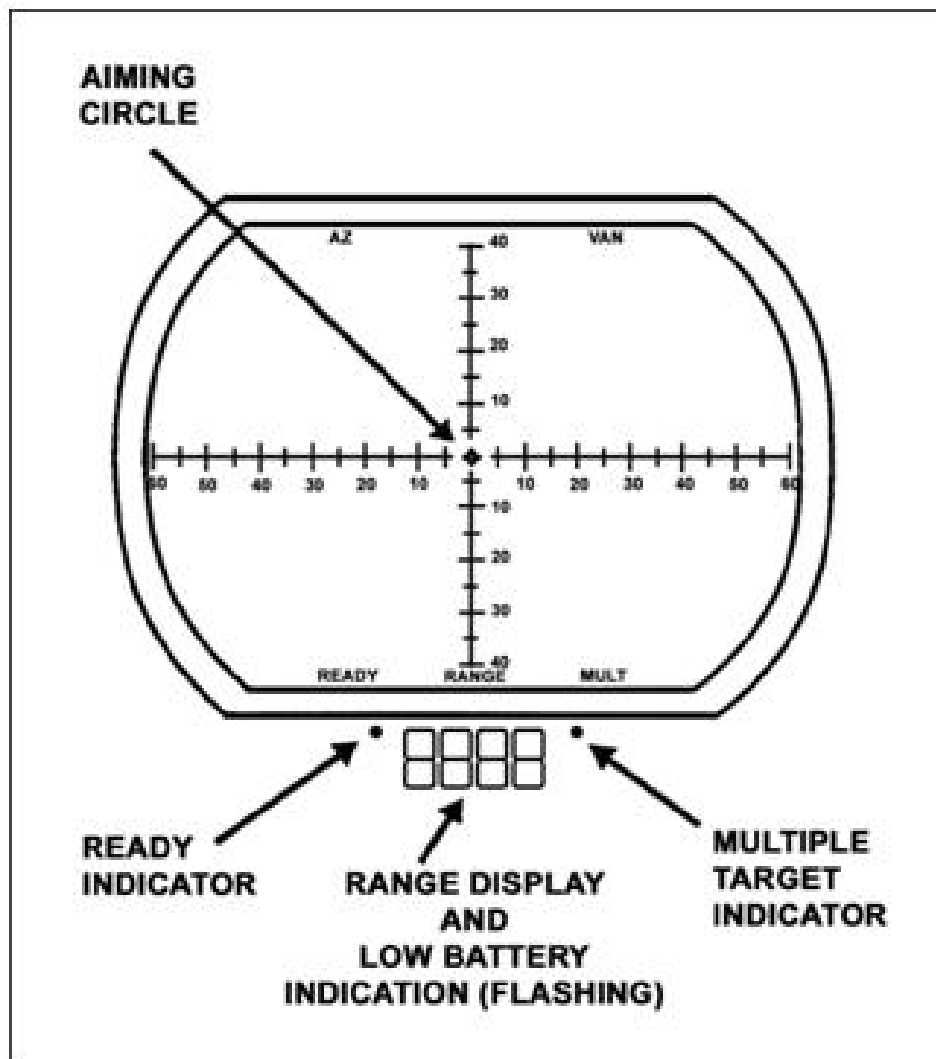

Figure 3. Eyepiece display.
j. Observe the display for ready indicator (Figure 3).